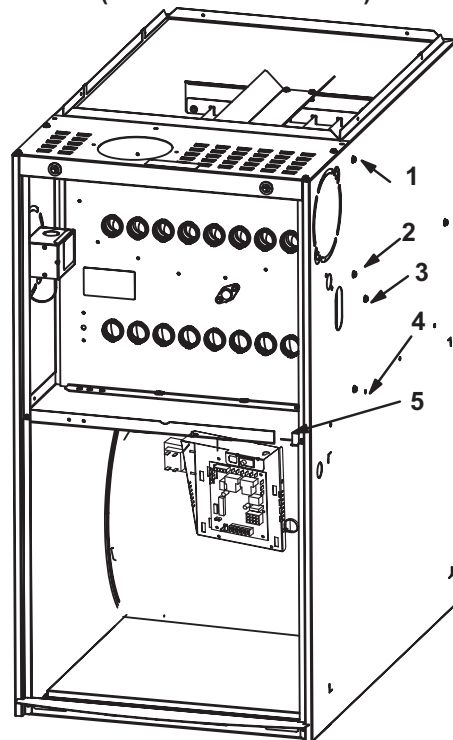

FIGURE 25
- 10 - Remove heat exchanger. It may be necessary to spread cabinet side to allow more room. If so, remove five screws from the left side or right side of cabinet. See FIGURE 25.